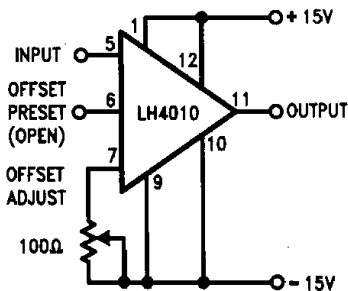

FIGURE 1. Offset Zero Adjust for LH4010
**Offset Voltage Adjustment:** Both the LH4010 and LH4010C offset voltages have been actively trimmed by laser to meet guaranteed specifications when the offset preset pin is shorted to the offset adjust pin. This pre-calibration allows the devices to be used in most DC or AC applications without individually offset nulling each device. If offset null is desirable, it is simply obtained by leaving the offset preset pin open and connecting a trim pot of 100Ω between the offset adjust pin and V- as illustrated in Figure 1.